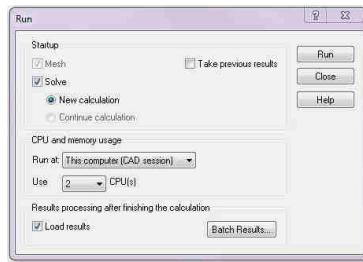

Fig. 16.12
- Click **Flow Simulation** → **Solve** → **Run**. Va apărea fereastra **Run**, fig. 16.12.
- Click **Flow Simulation** → **Solve** → **Run**. The **Run** dialog box appears, fig. 16.12.